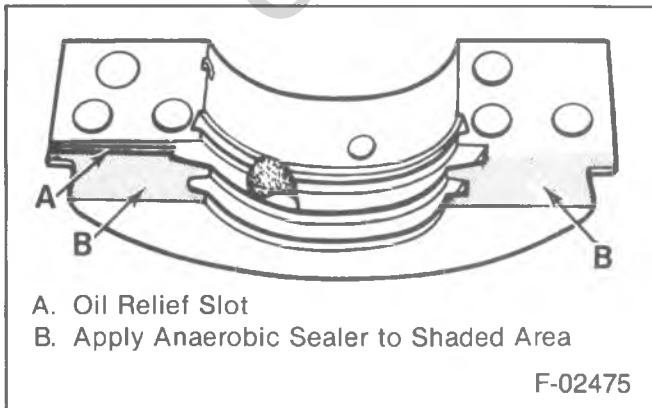

Figure 25—Applying Sealer to the Rear Main Bearing Cap
- Apply a thin film of anaerobic sealant (GM part number 1052756 or equivalent) to the bearing cap as shown in figure 25. Keep the sealant off the seal and bearing. Do not put sealant in the bearing cap oil relief slot.
**Install or Connect (Figures 25 and 26)**
- Apply a thin film of anaerobic sealant (GM part number 1052756 or equivalent) to the main bearing cap as shown in figure 25. Do not put sealant in the oil relief slot.